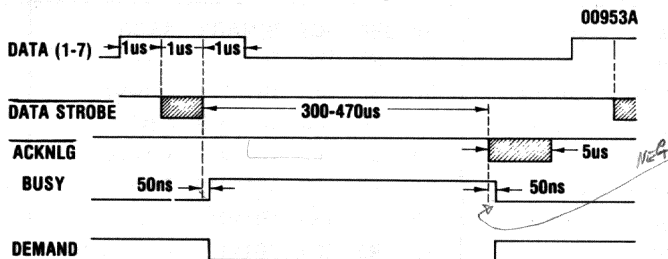

Figure 3-3 Interface Timing Diagram
See Figure 3-3 for Interface Timing Waveforms
**DATA STROBE**—The data strobe is a negative-going signal which transfers data from the host device to the printer logic. The pulse duration must be one microsecond minimum. The leading and trailing edges of the data strobe and input data must be as shown in Figure 3-3.